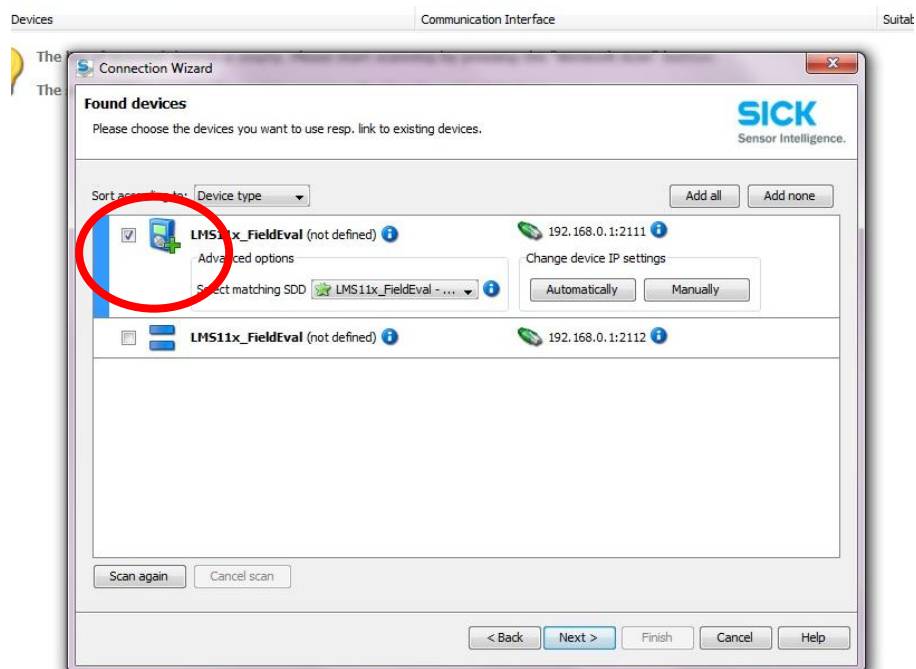

Fig. 6.
5. At this step the computer has detected the Sick device. Warning: In spite of being detected the LMS laser it has to be chosen (see red circle). Fig.6.